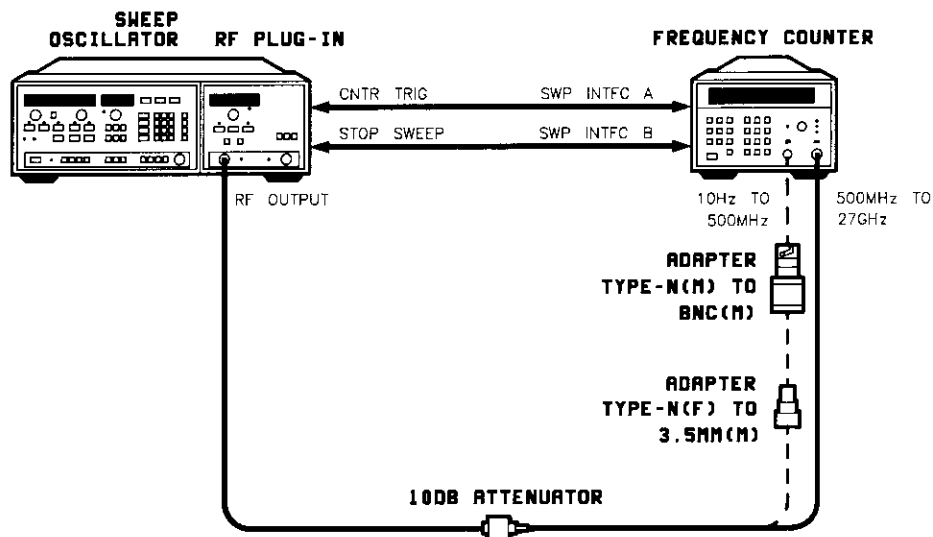

Figure 4-1. Frequency Range and CW Accuracy Test Setup
1. Connect the equipment as shown in Figure 4-1 and press **[INSTR PRESET]** on the HP 8350/83595A. Allow at least one hour warm-up. Note that the sweep oscillator display indicates a start frequency of 10 MHz and a stop frequency of 26.5 GHz.